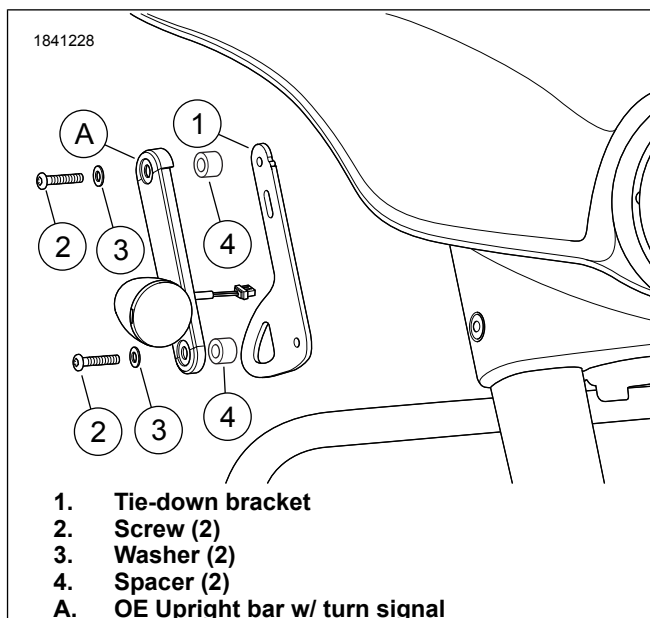

Figure 2. Tie-down Bracket Remove/Install (Right side shown)
1. See Figure 2. Route OE turn signal wire through slot on **new** tie-down bracket (1).
3. See Figure 2. Install tie-down bracket (1), OE upright bar (A) with turn signal, spacers (4), screws (2) and washers (3).